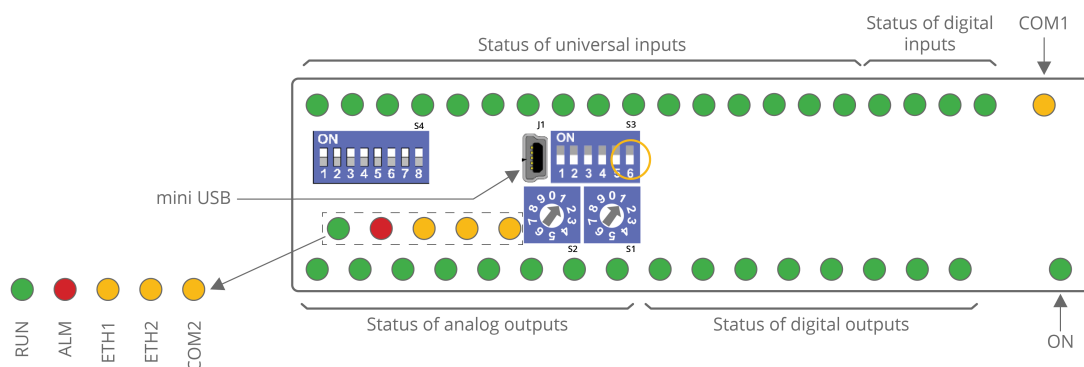

Figure 34. DIP switch
- **Generate Alert On Replay:** the Boolean (true/false) value that generates an alert (low priority alarm type), which indicates whether a Data Recovery Replay occurred (power was lost). This is a persistent artifact that will show up in the alarm console, since it is useful to know when the power loss occurred. By default the value is false. If set to true, upon any controller boot sequence in which the NV-RAM recorded data is discovered and played back, a corresponding alert is routed to the Alarm Class named in the Data Recovery Alarm Support container. The figure 34. shows details for such an example alert.